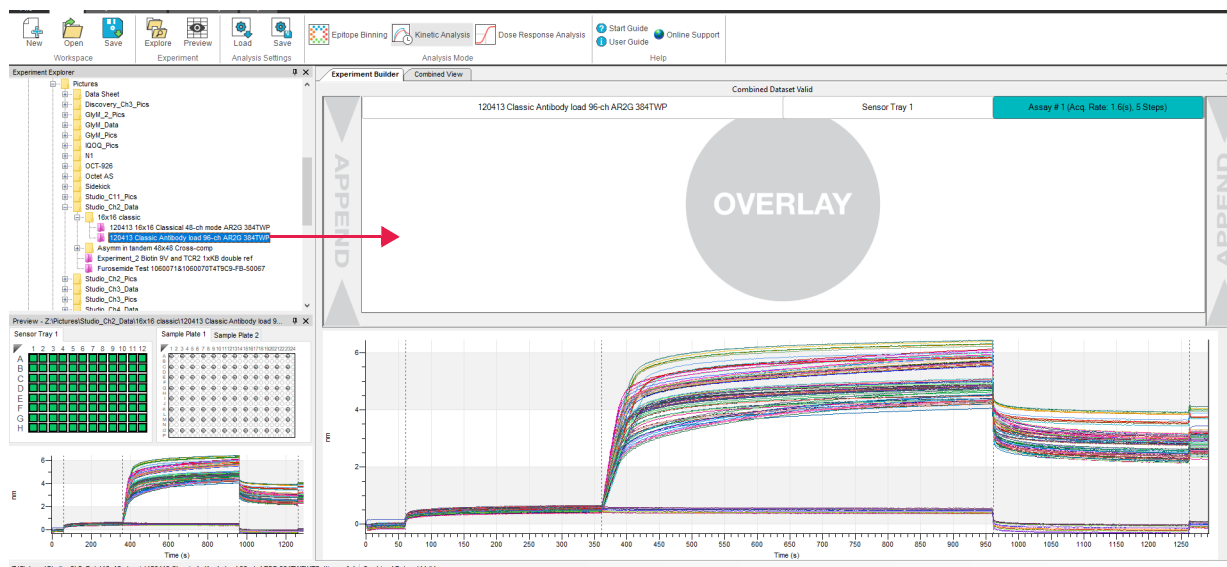

Figure 2-32: First File in Segment Window
1. Drag the first experiment file to the Segment window (Figure 2-32).